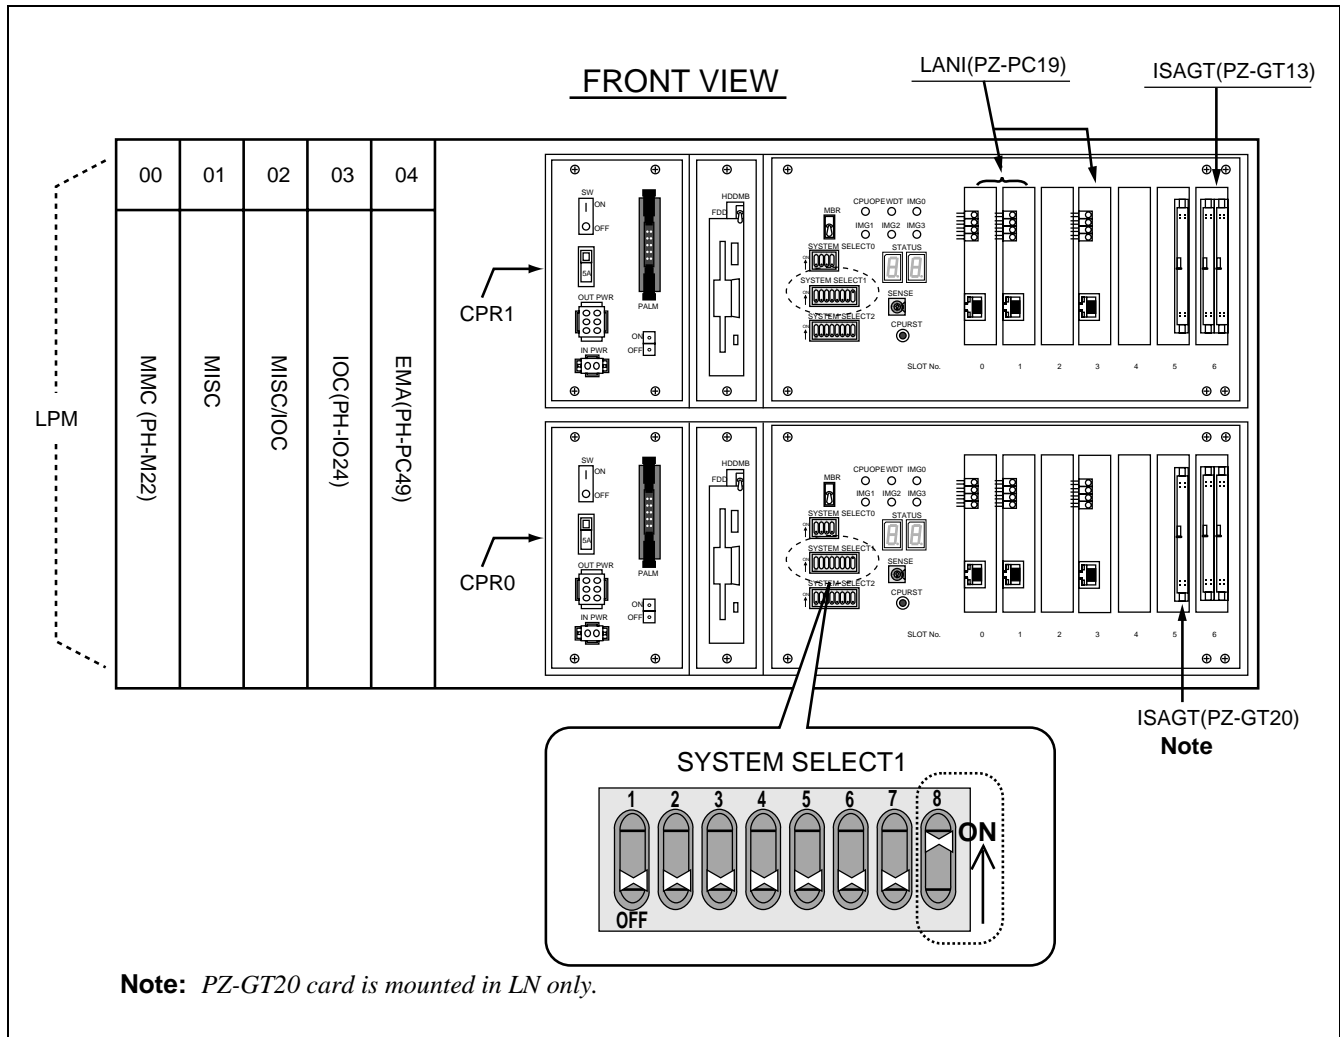

Figure 4-9 Switch Setting on the CPU Front Panel
- (6) Make sure Switch 8 of SYSTEM SELECT 1 (DIP Switch) on each CPU Front Panel is set to ON. (Do this for all LNs and ISW: Refer to Figure 4-9.)